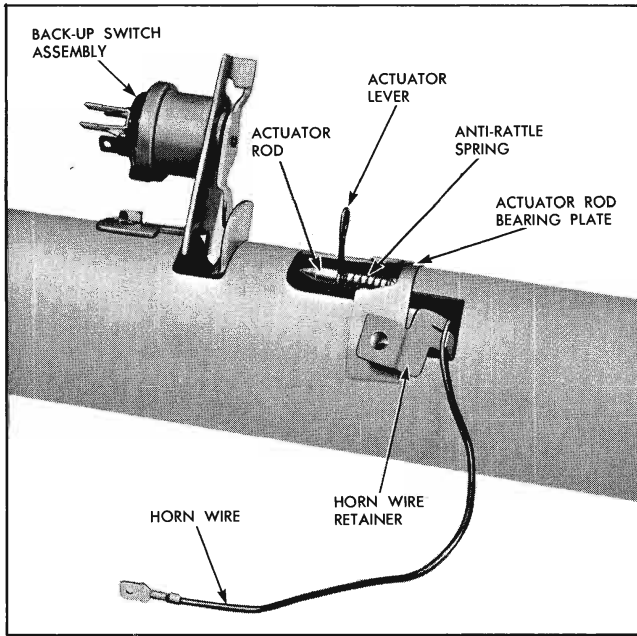

Fig. 9-13 Location of Actuator Lever
6. Hold actuator rod anti-rattle coil spring and bearing plate and remove hairpin type spring actuator lever from actuator rod (Fig. 9-13).